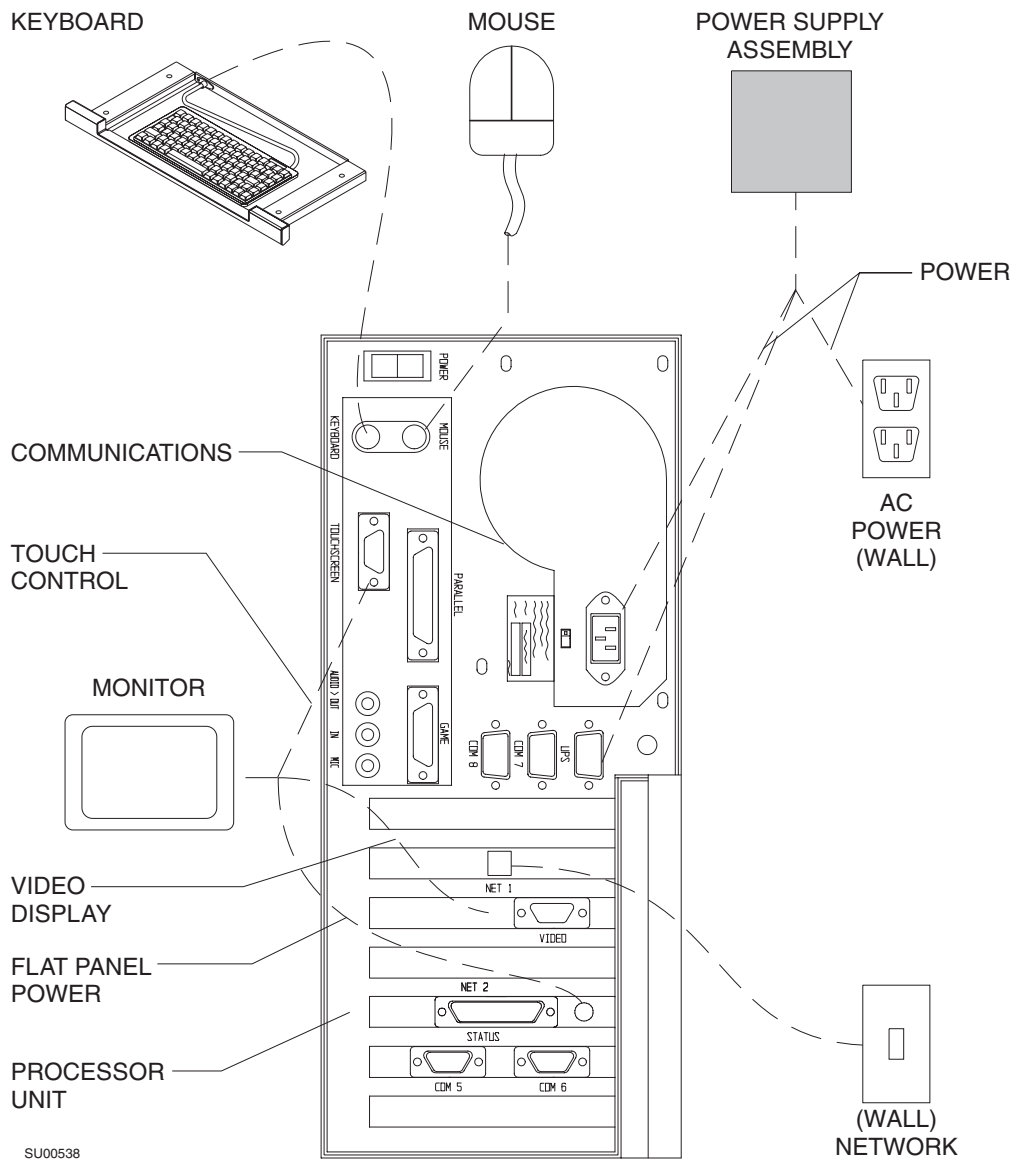

FIGURE 1. Typical 233 MHz Processor Cable Connections
3. Disconnect power supply cables from the Saturn processor. Disconnection of the cables will depend on the processor installed on the machine. Illustrated in Figures 1, 2 and 3 are the cable connections for each of the three processor configurations.
8. Reconnect cables from power supply to processor unit. See Figure 1, 2, or 3 for correct cable connections based on the processor installed.